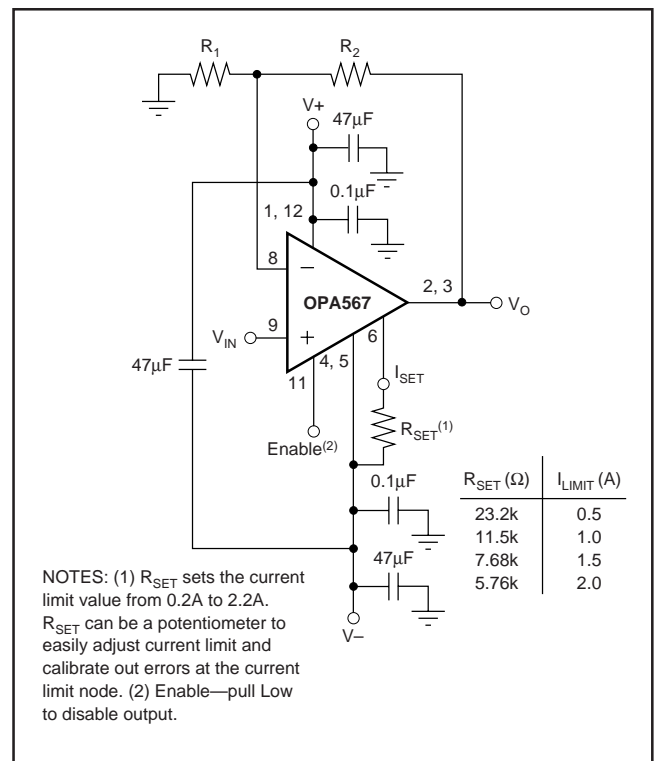

FIGURE 1. Basic Connections.
(1) See typical characteristic, *Maximum Output Voltage vs Frequency*.
(2) See typical characteristic, *Total Harmonic Distortion + Noise vs Frequency*.
(3) Swing to the rail is measured in final test. Under those conditions, the  $A_{OL}$  is derived from characterization.
(4) See Safe Operating Area (SOA) plots.
(5) See typical characteristic, *Overshoot vs Load Capacitance*.
(6) See the *Typical Characteristics* section. Higher frequency output impedance can affect frequency stability.
(7) External current limit setting resistor is required; see Figure 1.
Figure 1 shows the OPA567 connected as a basic non-inverting amplifier. However, the OPA567 can be used in virtually any op amp configuration. A current limit setting resistor ( $R_{SET}$ , in Figure 1) is essential to the OPA567 operation, and cannot be omitted.